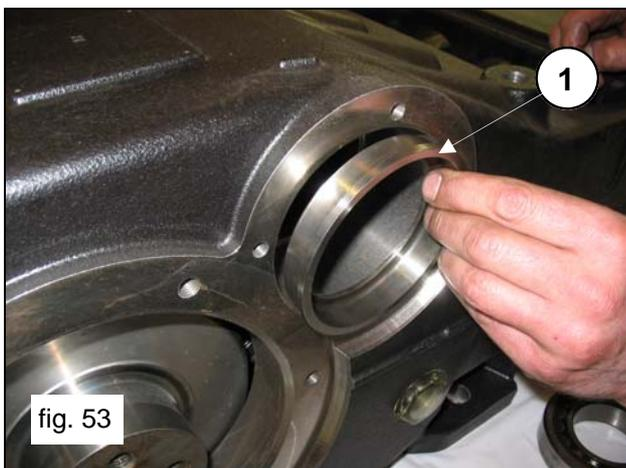

fig. 53
From one side of the casing, insert the bearing lubrication bush (pos. ①, fig.53) and an external bearing ring (pos. ①, fig.54) using a pad and a mallet or striking hammer.